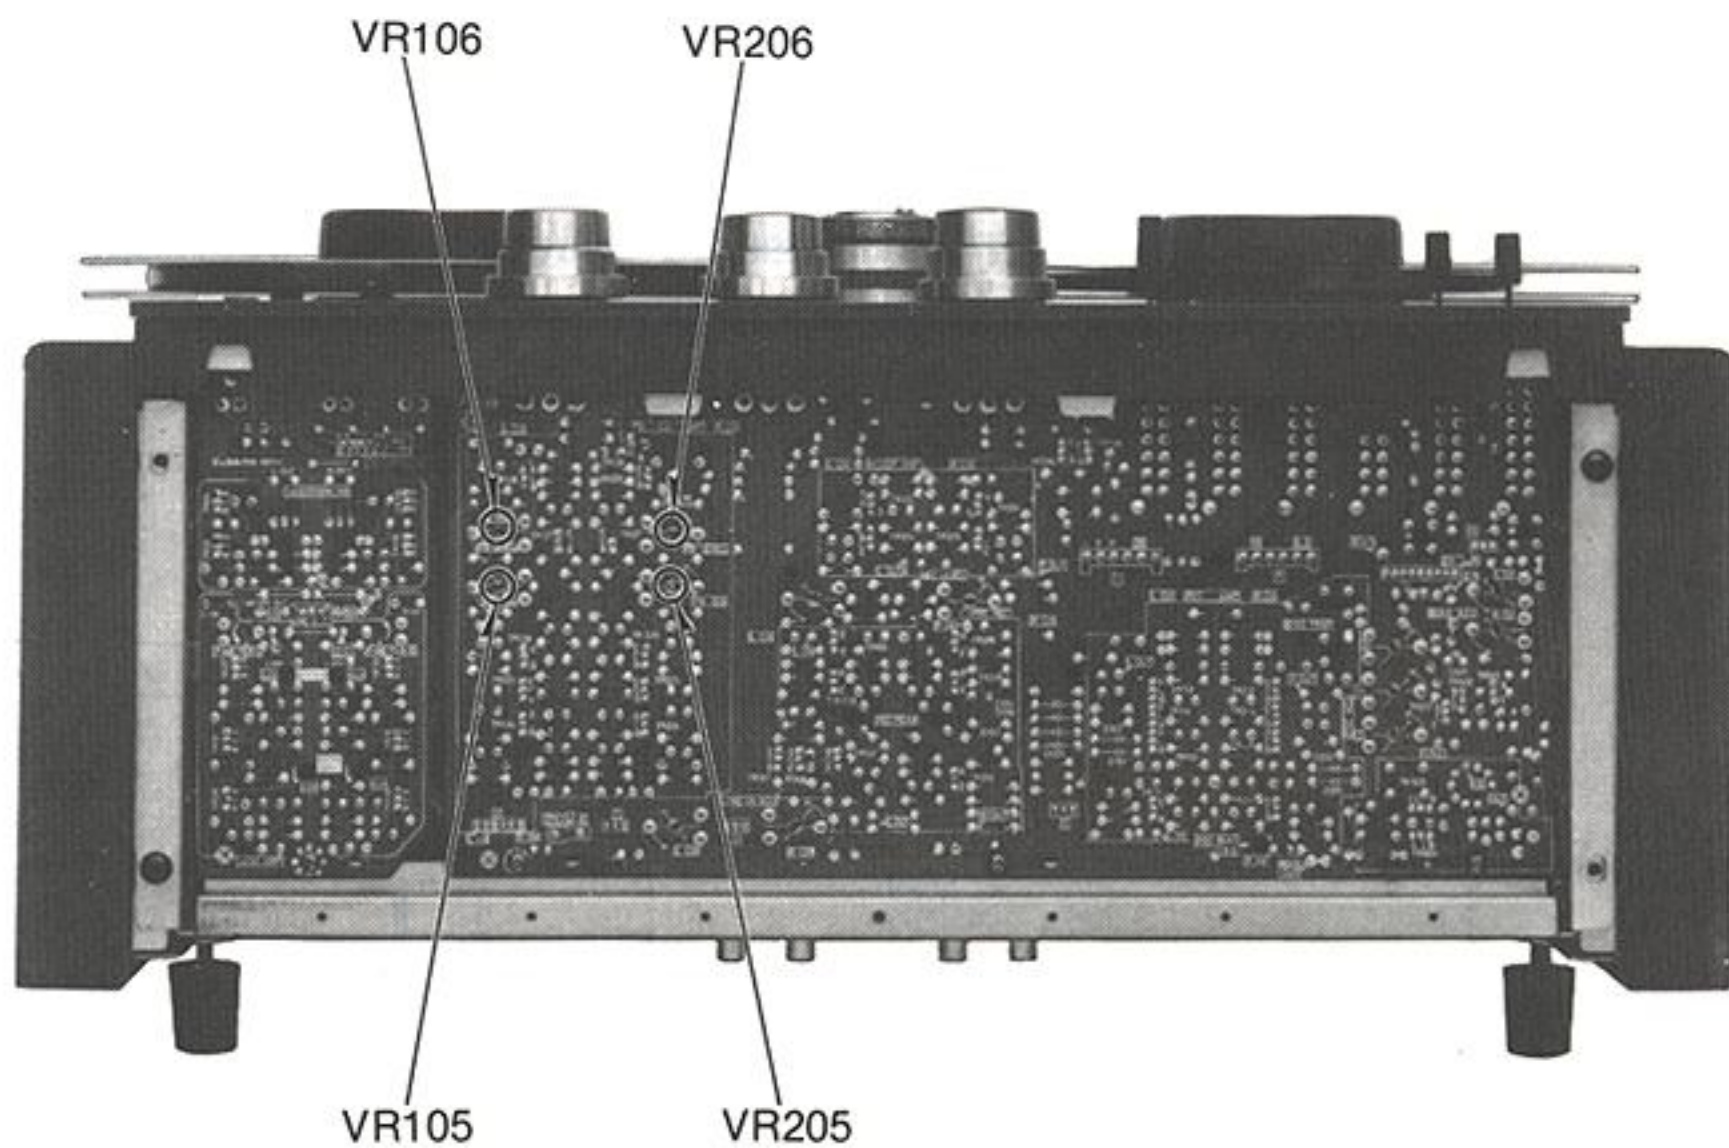

Fig. 35
1. If the measured value is not within standard, adjust the playback equalizer VR, VR105 (L-CH) and VR205 (R-CH) shown in fig. 35.
1. If measured value is not standard, adjust the playback level adjustment VR, VR106 (L-CH) and VR206 (R-CH) (See fig. 35.)